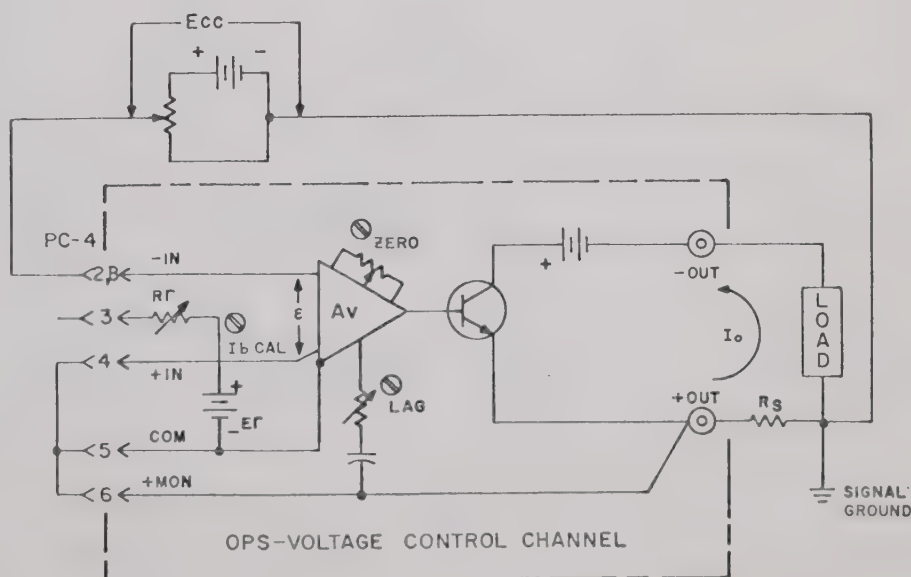

FIG. 3-17 EQUIVALENT DIAGRAM, OPS WITH EXTERNAL SENSING AND VOLTAGE CONTROL.
- 3-65 The transfer function for output control by voltage was derived from FIG. 3-17 and can be expressed by:
NOTE: This equation (Eq. 3) is derived from the equivalent diagram (FIG. 3-17), and is valid for the "zeroed" OPS.
- 3-66 The circuit shown in FIG. 3-17 is suitable for output current from I_O max of output current down to 1 microampere. The necessary sensing resistors for various current ranges are given in the table for a control voltage (E_{CC}) of 0-1 volt. For other control voltages, they can be calculated using the output equation (Eq. 3)
3-67 The external control voltage (E_{CC}) may simply consist of a potentiometer across a mercury cell (as indicated in FIG. 3-17) or it may be a controlled voltage source of your choice. The voltage source (E_{CC}) must be stable, but its current capacity can be quite small, since it is connected to a high resistance potentiometer and a virtually open circuit (provided the offsets are nulled or zeroed, as previously described in par. 3-60). Note: For Digital control a Kepco SN–2 Programmer may be used.